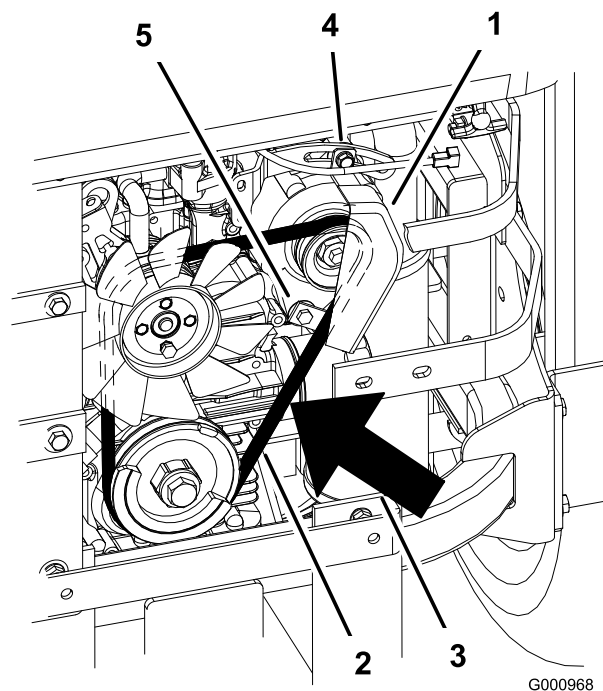

Figure 83
- Loosen the bottom bolt and remove the upper bolt holding the alternator and cover (Figure 83).
- Install a new belt around the pulleys and the alternator (Figure 83).
- Tighten the bottom bolt and install the upper bolt holding the alternator and cover (Figure 83).
- Adjust the alternator to the outside until there is 7 to 9 mm (1/4 to 11/32 inch) deflection in the belt between the engine and the alternator pulleys with 10 kg (22.1 lb) of force (Figure 83).
- If the deflection is correct, tighten the bottom and upper bolt (Figure 83).